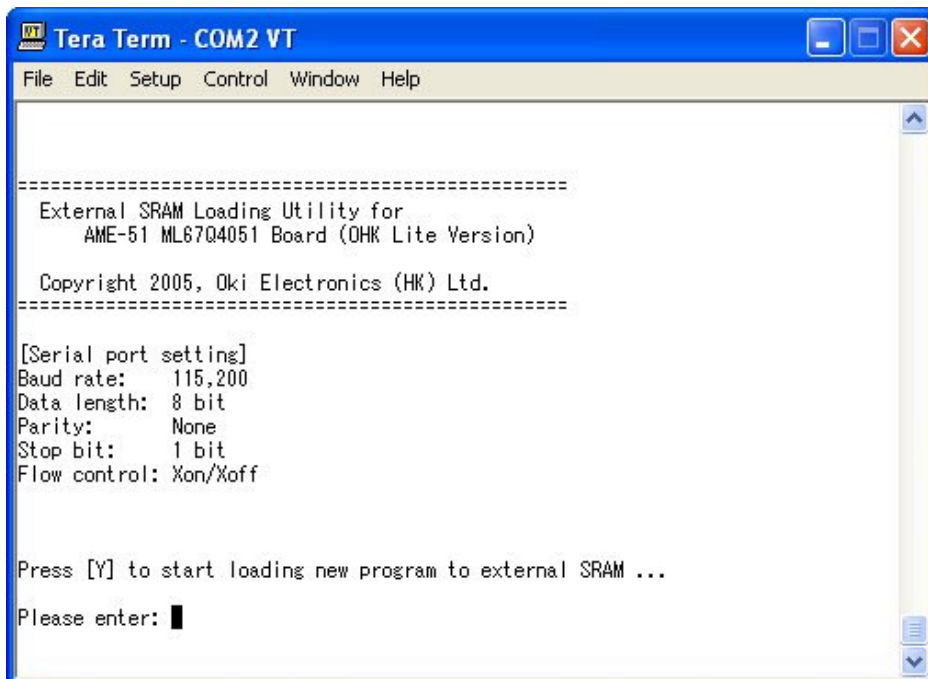

Figure 5.6
13. Press RESET on the board again, board should be connected and a window will be given out as shown in Figure 5.6. Press "Y" to start downloading Intel HEX file.